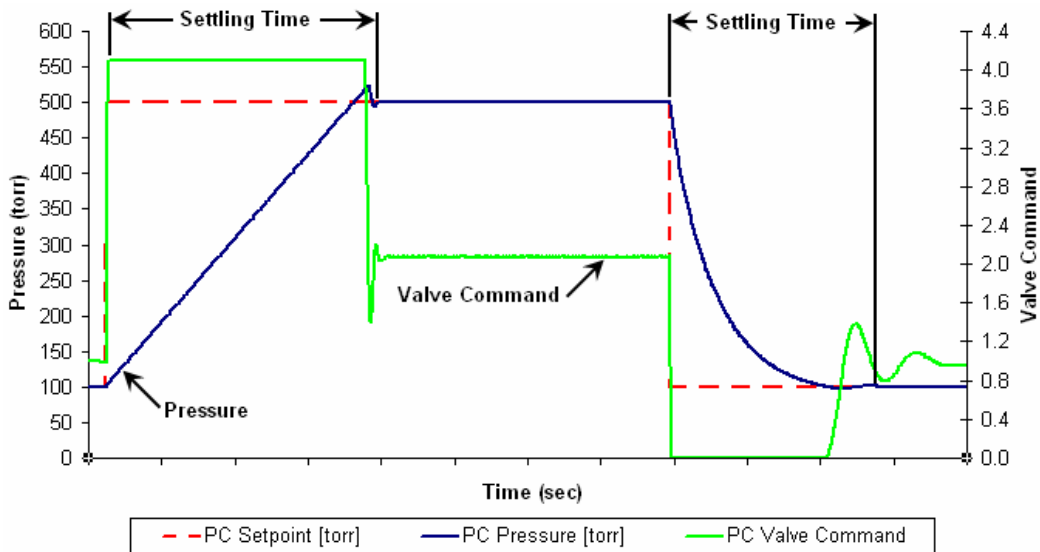

Figure 40: Controller Response with New K_p and K_i term values
The controller response, once again, reaches the setpoint without a problem. The noticeable changes are: (1) the oscillation starts initially and then stops and (2) the controller has more of an undershoot when the valve responds to bring the pressure to 500 Torr. The best way to fix both of these problems would be to reduce the K_i term. This would slow the response time, thus reducing the oscillation and undershoot. A good rule of thumb when reducing the K_i term is to start by cutting the K_i value in half, and then increase or decrease the value as needed. However, in this case, it was important to consider the typical use of an upstream pressure controller which uses two volumes, one large and one small. Tests using the small volume, which is approximately 0.5 cm^3 , showed the K_i term with a value of 50 was good. Ultimately, after trying different K_p and K_i values with both volumes, the best values were with K_p set to seven and K_i set to fifty. Figure 40 on the next page shows the controller response with these settings using the 500 cm^3 volume.